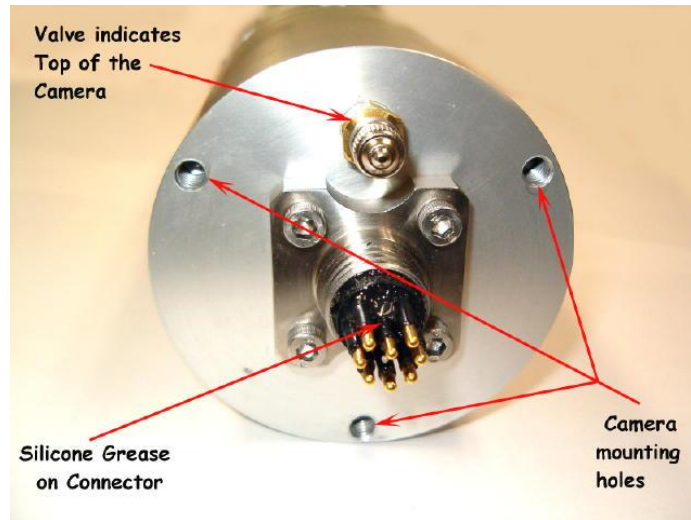

FIGURE 6: CAMERA MOUNTING HOLES
2. The purge valve indicates the top of the camera, as in Figure 6. Mount the camera with the valve on top.